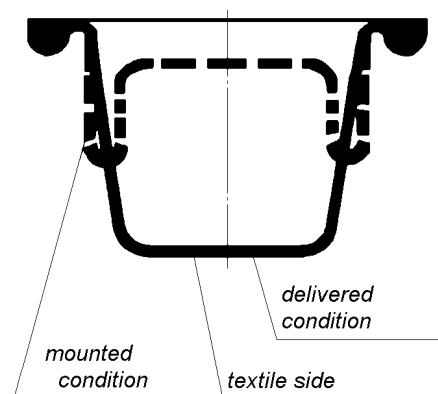

Figure 2 Membrane
- Figure 2 Membrane.....5**
- Prepare the new membrane according to Figure 2 and insert the membrane.